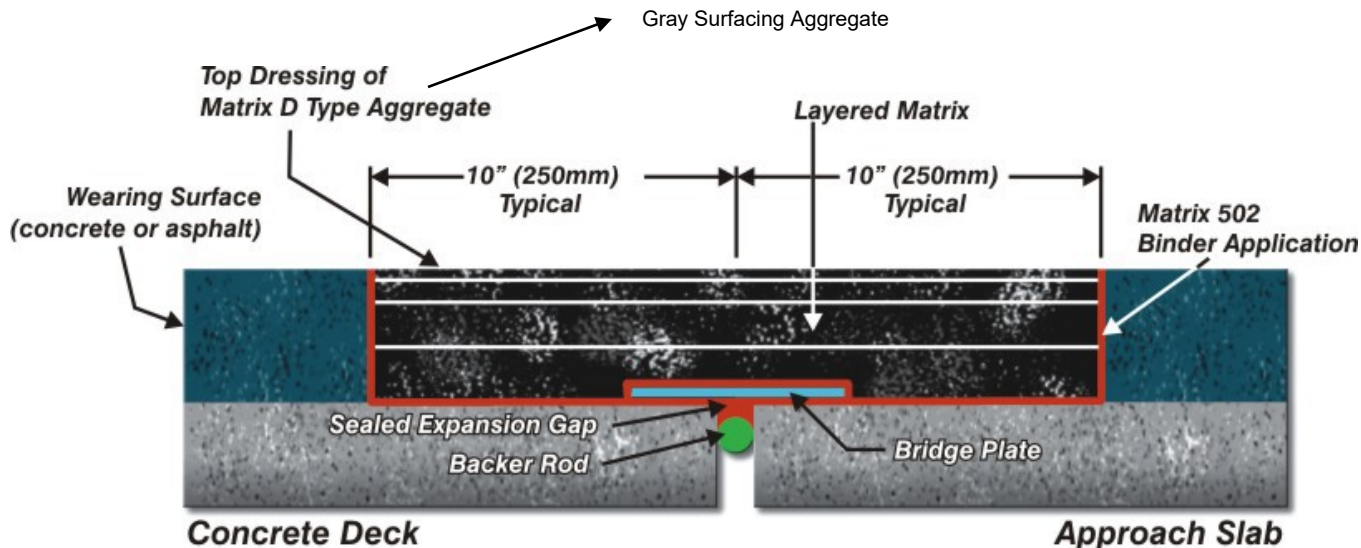

Figure 1. Typical Matrix 502 Asphaltic Plug Bridge Joint System.
**TYPICAL INSTALLATION** Figure 1 shows a typical installation of the Matrix 502 Asphaltic Plug Bridge Joint System. Locations for each of the components are shown.